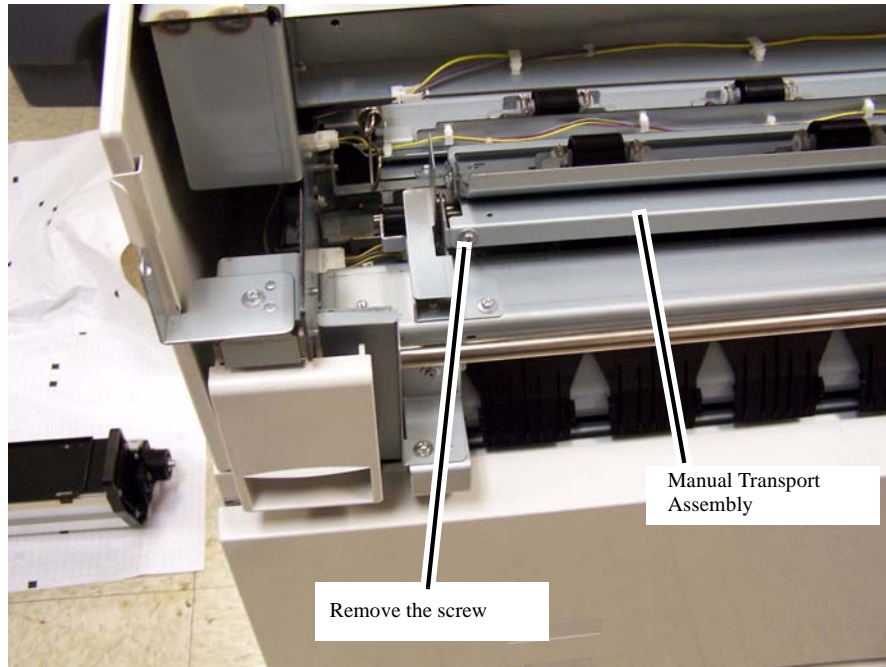
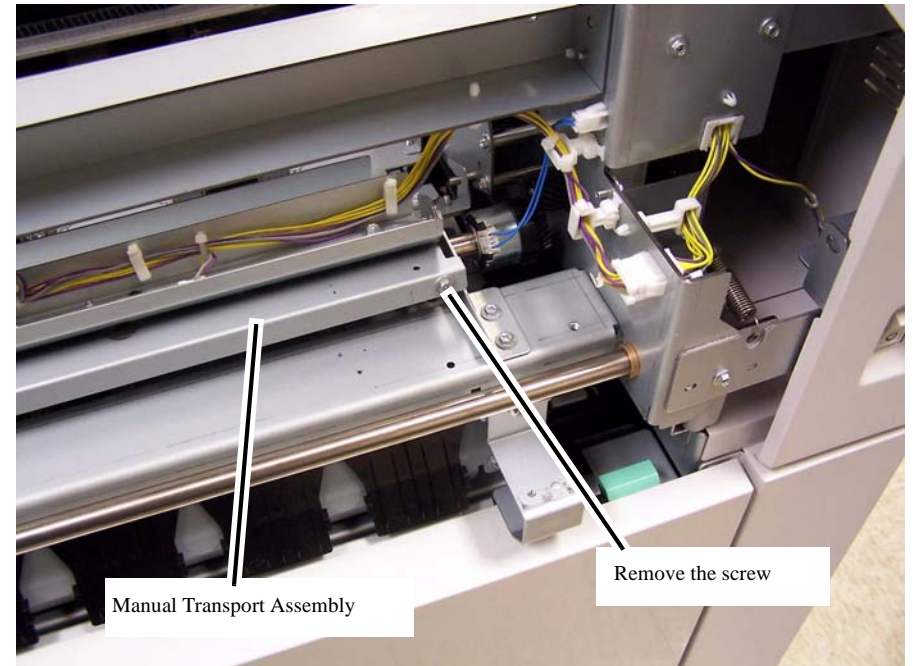

Figure 1 Remove the left front screw
Figure 2 Remove the right front screw
- a. Remove the 2 front screws (Figure 1 and Figure 2).